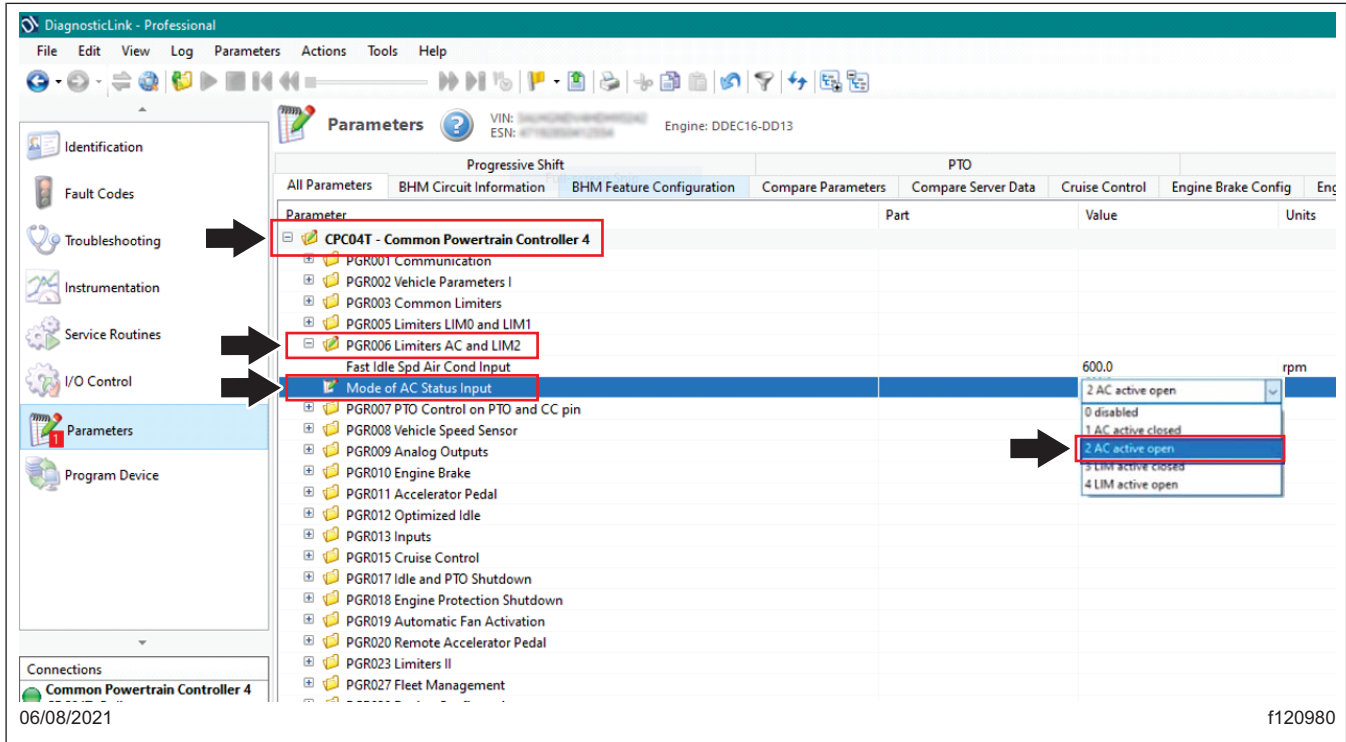

Fig. 3, Updating 'Mode of AC Status Input' Parameter Value
- Once all the parameters are successfully read, go to 'CPC04T - Common Powertrain Controller 4', 'PGR006 Limiters AC and LIM2', 'Mode of AC Status Input'; then change the value from '0-disabled' to '2-AC active open'. See Fig. 3.